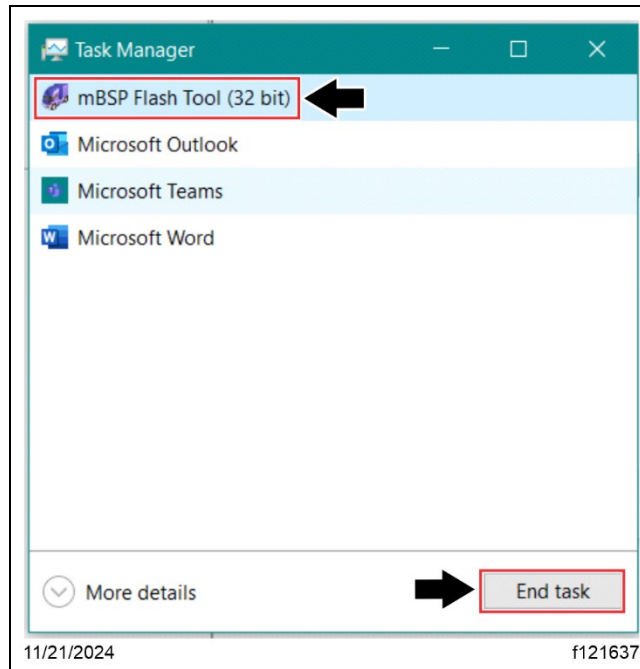

Fig. 57, Task Manager
- 17.2. Go to 'Task Manager' on the computer and make sure the flash tool application is closed. Select 'mBSP Flash Tool,' then select the 'End Task' button. See Fig. 57.